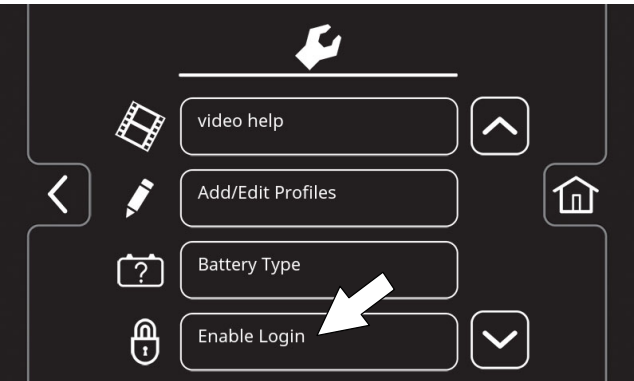

FIG. 178
- 4. Press the Enable Login button (Figure 178). The Enable button will change from Enable Login to Disable Login.